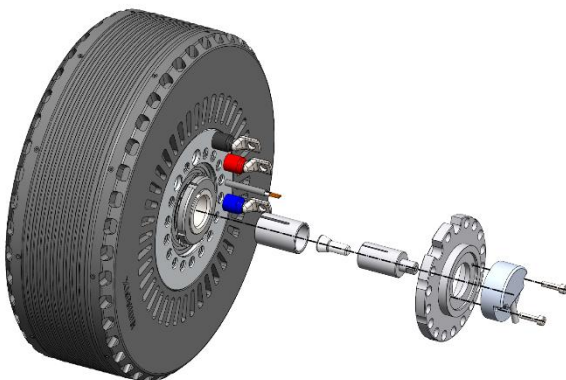

Figure 3: Encoder assembly
1. Place the adapter (3) inside the motor shaft (this step is only required for the 268 and 348 motor types). Before inserting the part use threadlocker glue on the faces, where the parts are mated.
2. Insert the tapered bolt (1) into the encoder magnet set (2) and lightly tighten it. Using threadlocker glue supplied with the kit on the threads is recommended.
3. Insert the encoder magnet set (2) into the backside of the motor (as shown on Figure 3 – magnet facing outwards), inside the motor shaft. Before inserting the part use threadlocker glue on the faces, where the parts are mated.
4. Mount the encoder bracket (4) on the back of the motor (as shown on Figure 3). Make sure that it is seated in its position, if necessary, use temporary bolts to tighten it to the motor (If the motor is liquid or combined cooled, please make sure that the coolant fittings are inserted, before mounting the encoder bracket, please refer to 3.5).